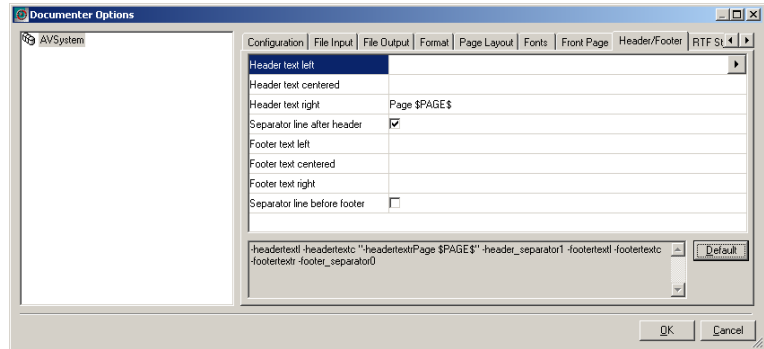

Figure 191: Documenter Options dialog box, Header/Footer tab
- To specify headers and footers for the pages after the front page, click the Header/Footer tab, and select the appropriate options. See *Figure 191*, page 270.